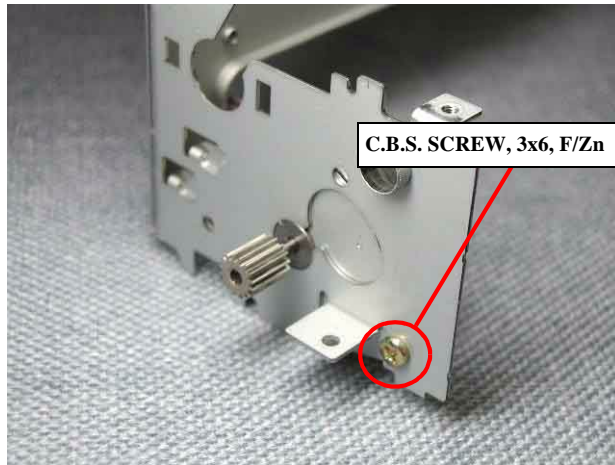

Figure 4-72. PF motor removal
- Fasten one screw (C.B.S. SCREW 3x6 F/Zn) for securing the PF motor to the Main frame (Refer to Figure 4-72).